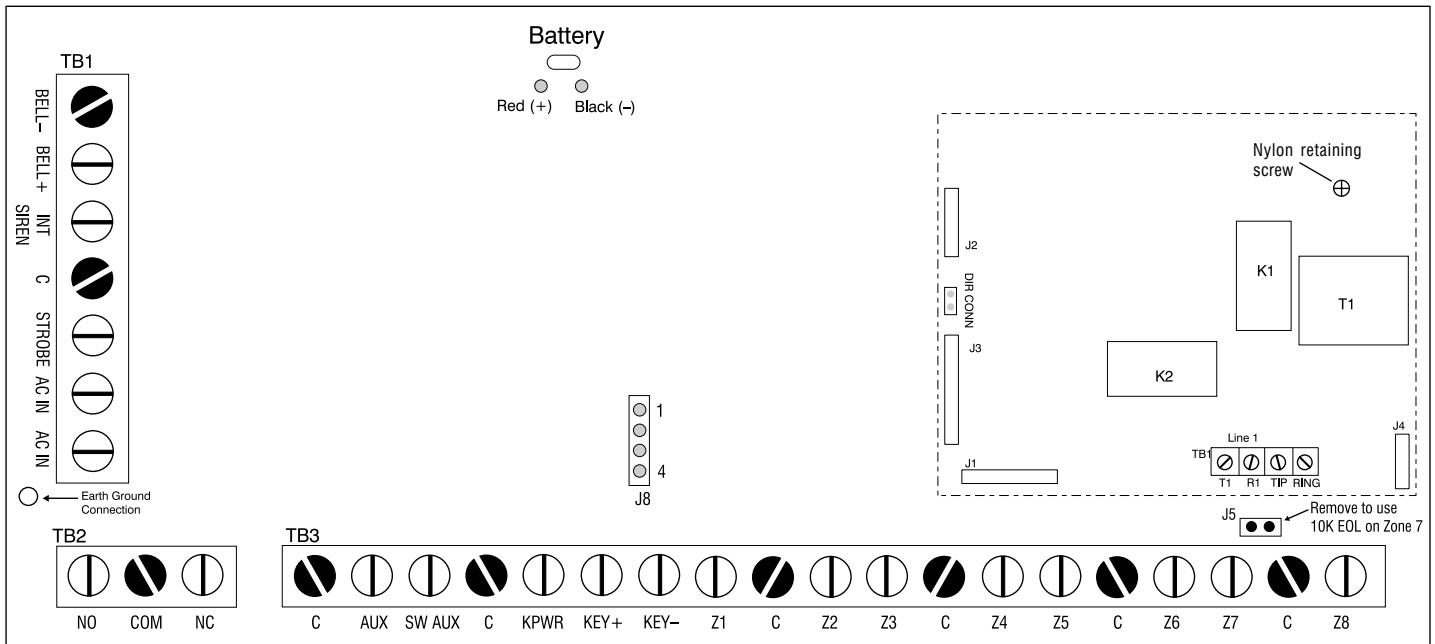

Figure 1
- Connect the earth ground wire (green with yellow stripe) to the board (see Figure 1) and cabinet. The earth ground wire will connect to the upper hinge when using the large enclosure and to the lower hinge on the small enclosure.
The Sierra S5832EB receives its power from a 16.5 VAC 40 VA transformer. Connect the transformer to the AC In terminals on TB1 of the PCB (see Figure 1), using 18 AWG (1.02 mm) wire. (Some systems may have the transformer and mains fuse block installed and pre-wired from the factory.)